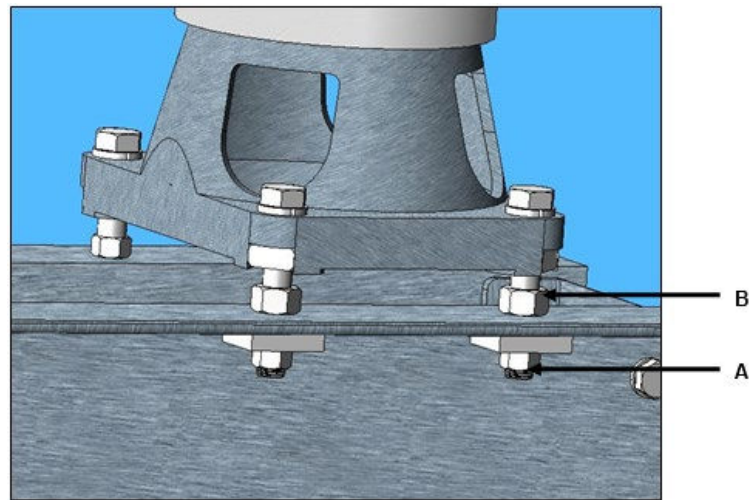

Figure 7: Insulator Stack Alignment
- 1.8.1. Always be sure to tighten the bottom hex nuts securely after jackscrew adjustments are complete (**Figure 7**).